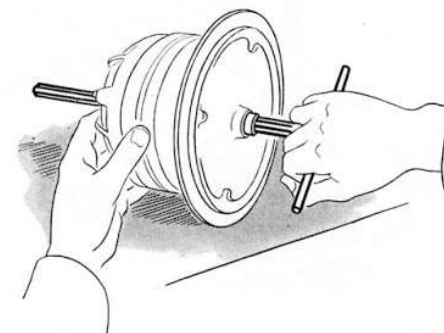

FIG. 64—Reaming upper & lower bearings
- c. Turning reamer to the *right*, ream both bearings all the way thru. See Figure 64.